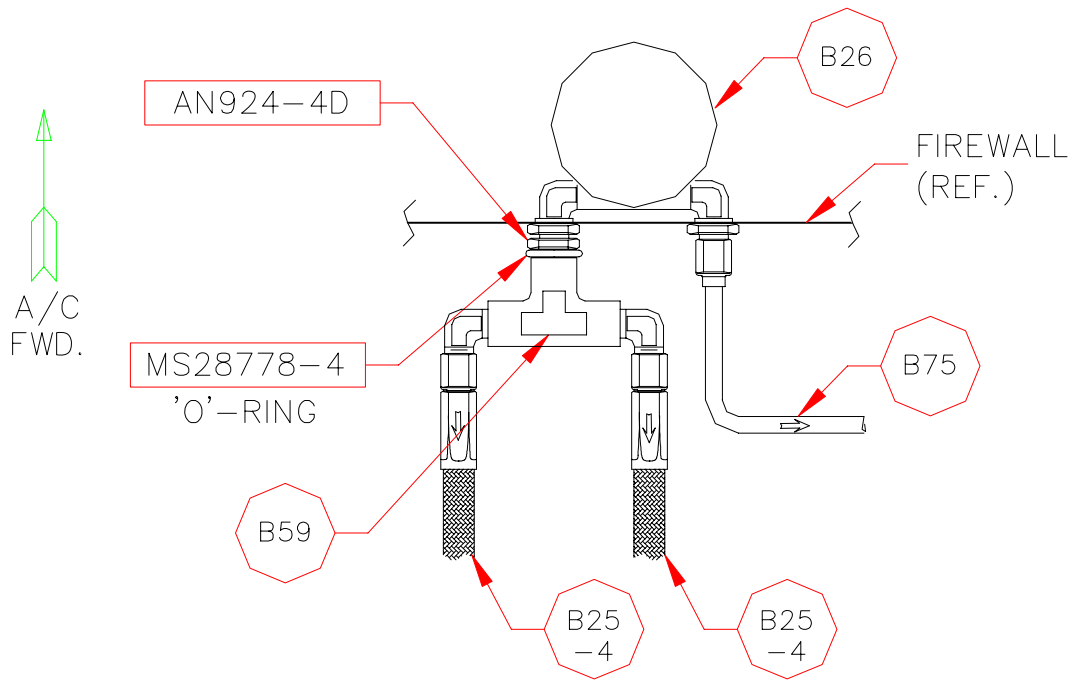

FIGURE 2 EXISTING BRAKE SYSTEM DETAIL
14. Disconnect both B25-4 pilot brake reservoir flex lines from B59 manifold. See Figure 2.